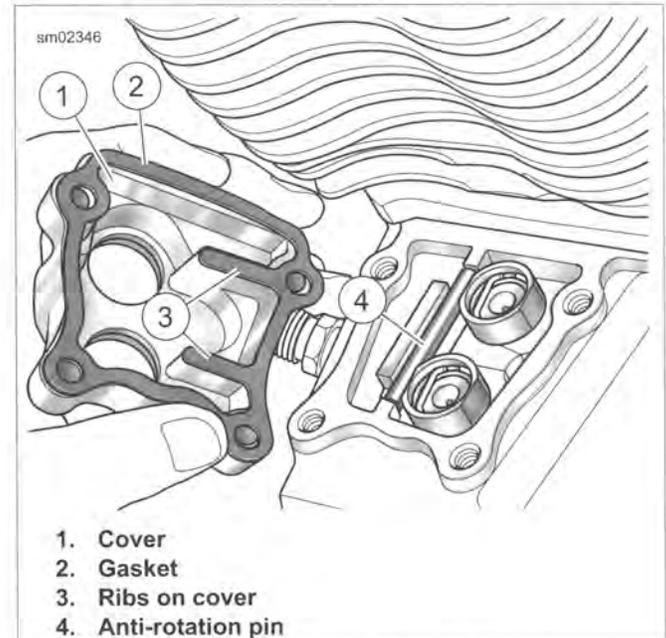

Figure 3-80. Installing Lifters
3. See Figure 3-80. Place the anti-rotation pin (4) on the machined flat between the blocks cast into the crankcase.